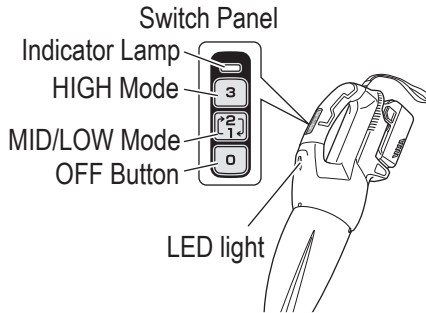

Fig. 11
1. Switch operation (**Fig. 11**)